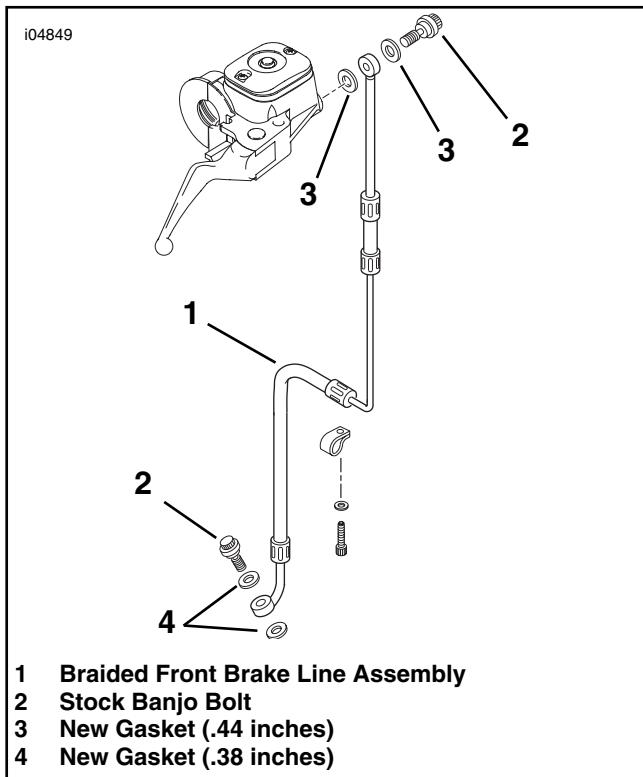

Figure 4. Front Braided Brake line Assembly
- See Figure 4 and the Service Parts illustration.